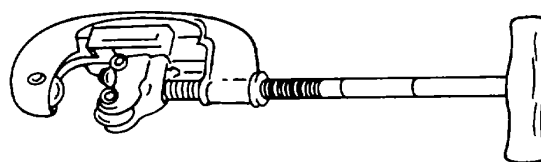

Figure 4-114. Pipe Cutters
(1) Pipe cutters. Pipe cutters are used to cut pipe made of steel, brass, copper, wrought iron, and lead. The two sizes of pipe cutters generally used in the Army have capacities of 1/8 to 2 inches, and 2 to 4 inches. A typical pipe cutter is shown in figure 4-114.